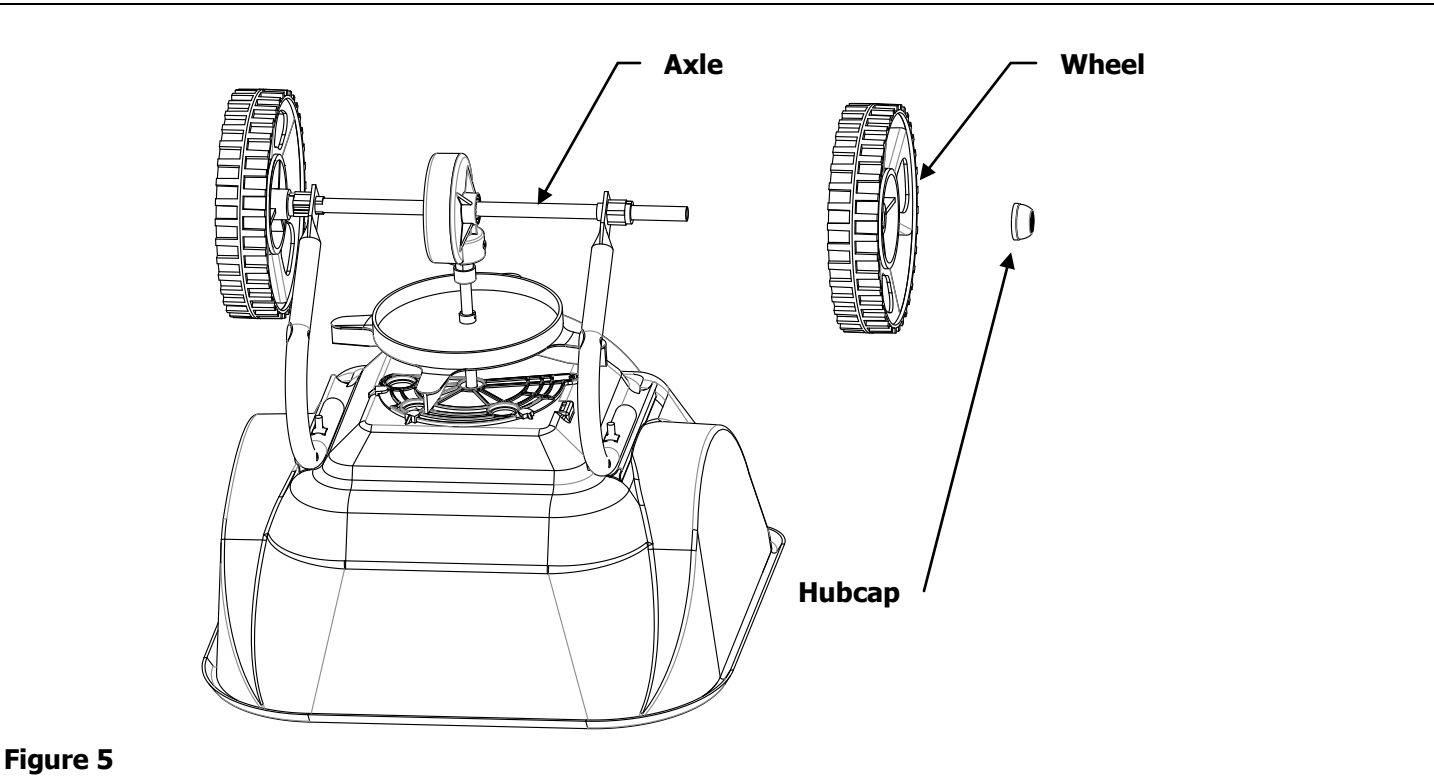

Figure 5
5. Place the Wheel on the Axle. Using a hammer; tap the Hubcaps on the end of each side of the Axle to secure the Wheels. See Figure 5.